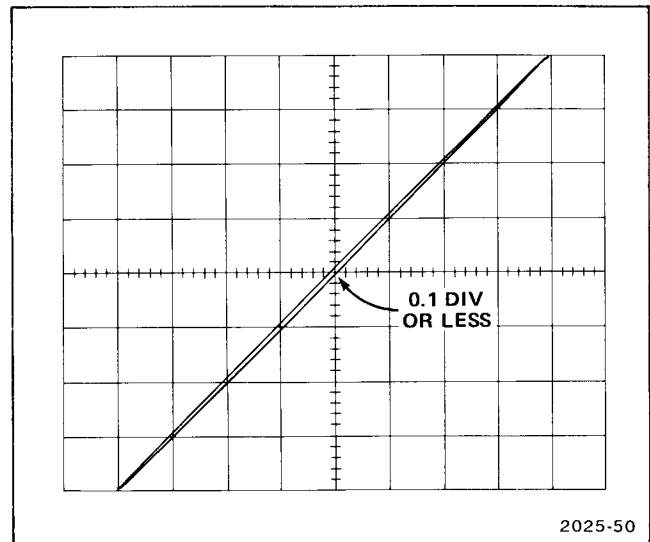

Figure 6-5. Typical horizontal and vertical phase difference display.
- ✓ d. **CHECK**—That the diameter of the displayed ellipse, measured vertically at the center of the graticule, is 0.1 division or less (see Fig. 6-5).